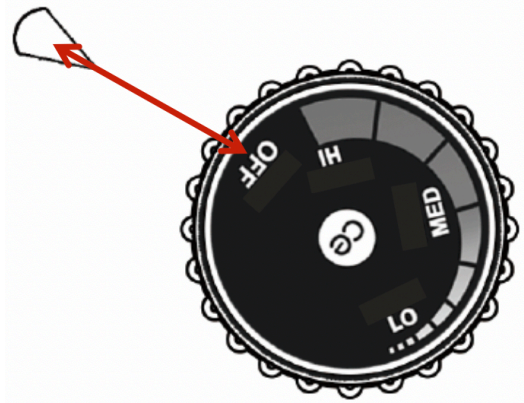

Fig. 1
1. Make sure the OFF symbol on the Temperature Control Dial (part #7b) is fully turned to the light Indicator location. (Fig. 1, page 12). The light should not be illuminated.
4. Adjust the setting on the Temperature Control Dial to desired temperature level. (Fig. 1, page 12). Settings on the Temperature Control are indicated by temperature marks on the circular dial, including the 'OFF' position marking. The light indicator will illuminate while the unit is heating, and will switch on and off during the cooking cycle. The unit is usually packed with the Temperature Dial set to the "OFF" position.